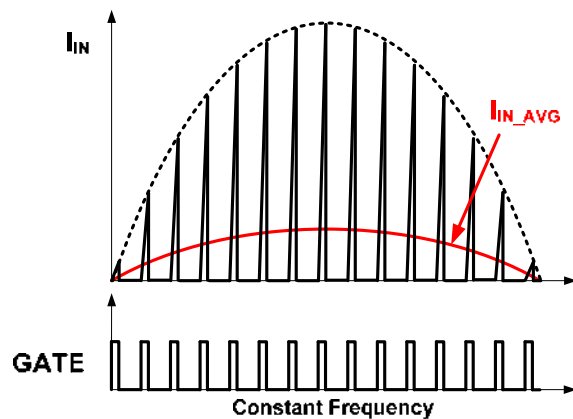

Figure 18. Input Current and Switching
In a conventional boost converter, Boundary Conduction Mode (BCM) is generally used to keep input current in phase with input voltage for Power Factor (PF) and Total Harmonic Distortion (THD). However, in flyback / buck boost topology, constant turn-on time and constant frequency in Discontinuous Conduction Mode (DCM) can implement high PF and low THD, as shown in Figure 18. Constant turn-on time is maintained by an internal error amplifier and a large external capacitor (typically $>1 \mu$ F) at the COM1 pin. Constant frequency and DCM operation are managed by linear frequency control.